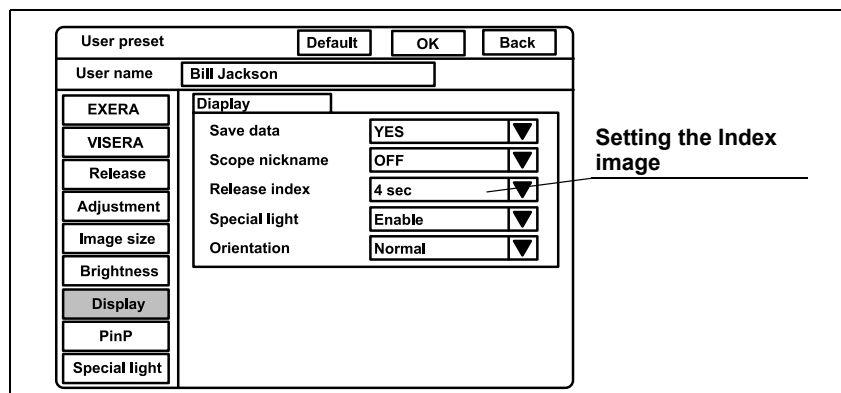

Figure 9.35
1. Click “▼” of “Release index” (see Figure 9.35). The display times appear in the pull-down menu.